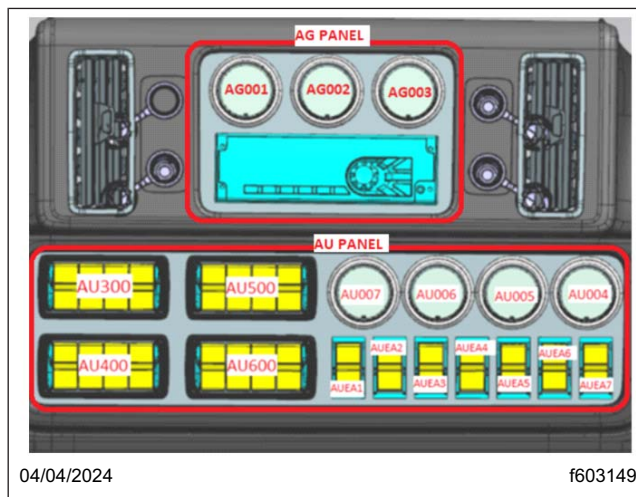
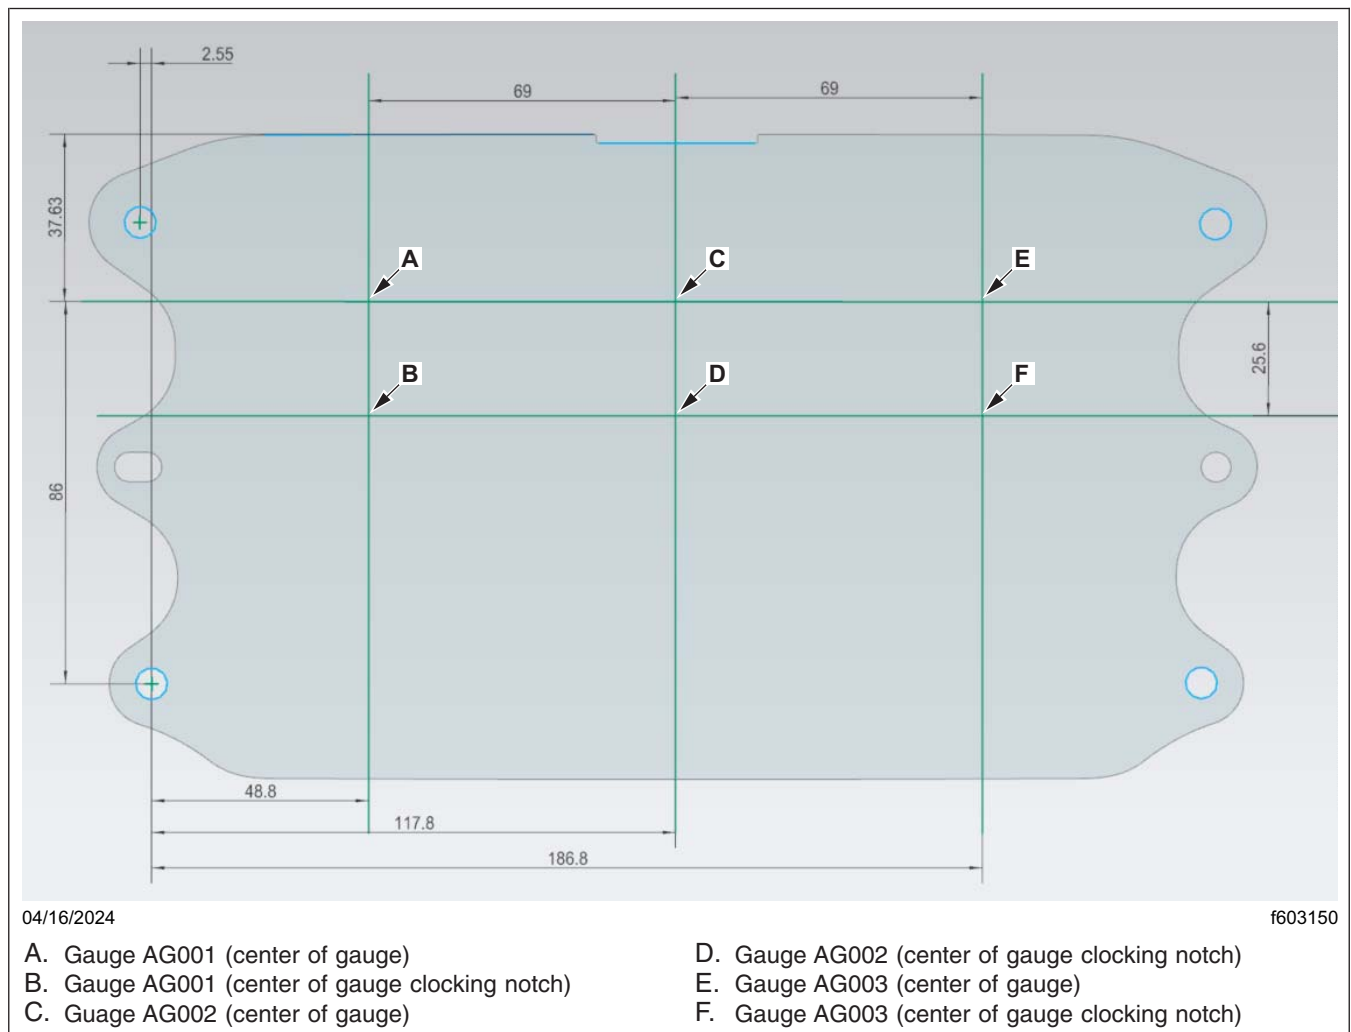
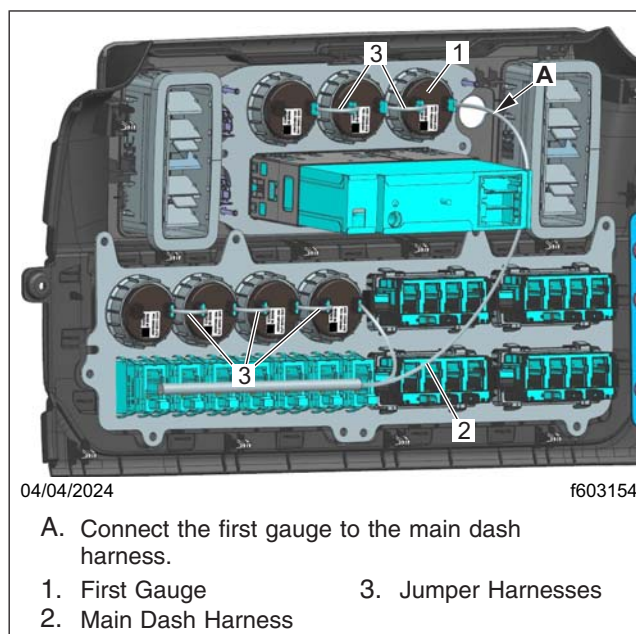

Fig. 1, Upper- and Lower-Center Dash Panels Showing all Possible Gauge Locations
Fig. 4, Locations for Gauges AG001, AG002, and AG003; Upper-Center Dash Panel (AG)
Fig. 7, Installation of the Gauge Jumper
The work instructions that follow detail how to install a transmission temperature gauge in one of the gauge locations specified by population. For example, in populations A and B, the gauge is to be installed in the position AG001, on the upper-center dash panel. See Fig. 1 for all the possible gauge locations.
NOTE: The switch configurations on the vehicle being repaired may differ from the panel shown in Fig. 1.
- Lay out the location for the gauge centerline and the gauge clocking notch on the upper-center dash panel (auxiliary gauge panel), as shown in **Fig. 1** and **Fig. 4**.
- Mark the location of the gauge centerline and the center of the gauge clocking notch to be installed, per the dimensions shown in **Fig. 4**.
- *For population A only* → To install the gauge AG001, locate the jumper coming from the main harness behind the panel, and connect it to the back of the gauge. See Fig. 7.
- *For populations B-E* → To install the gauges AG002 or AG003, check if a spare jumper is attached to the adjacent gauge, and connect it to the gauge that is just installed. If the jumper is missing, install the jumper supplied between the adjacent gauge and the newly installed gauge. See Fig. 1 and Fig. 7.
13. Lay out the location for the gauge centerline and the gauge clocking notch on the lower-center dash panel (AU panel), as shown in Fig. 1.